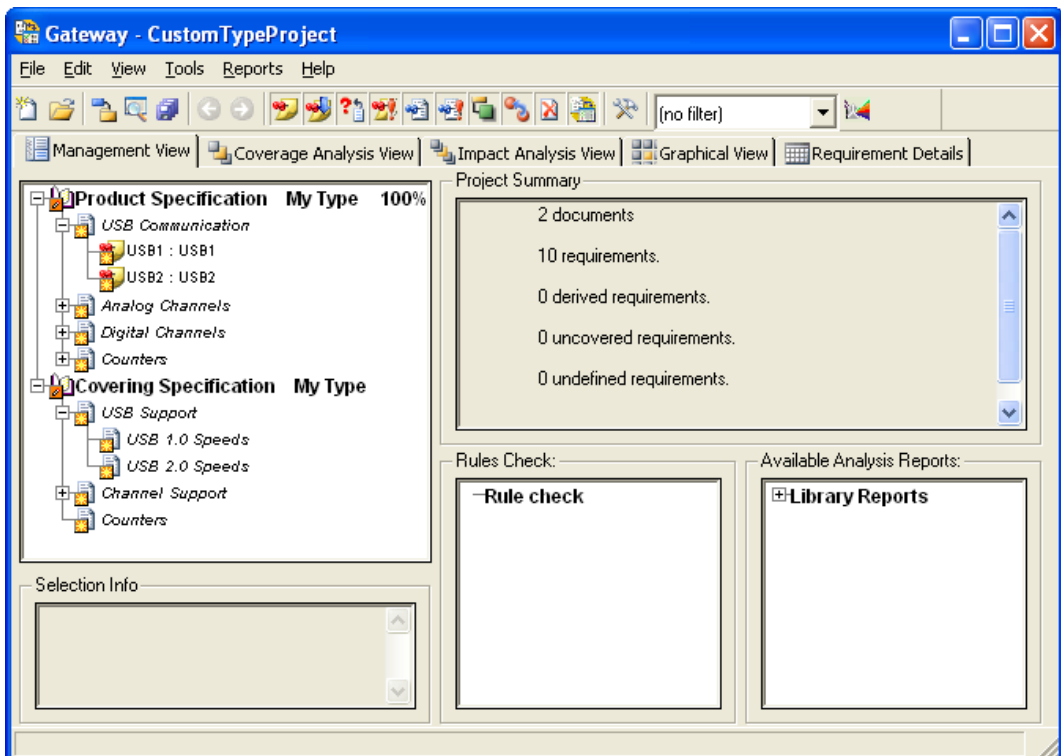

Figure 6-5. CustomTypeProject
5. Click the **Management View** tab and review the contents of each document. The Project Summary section indicates that the two documents have ten requirements and zero uncovered requirements as shown in Figure 6-5.